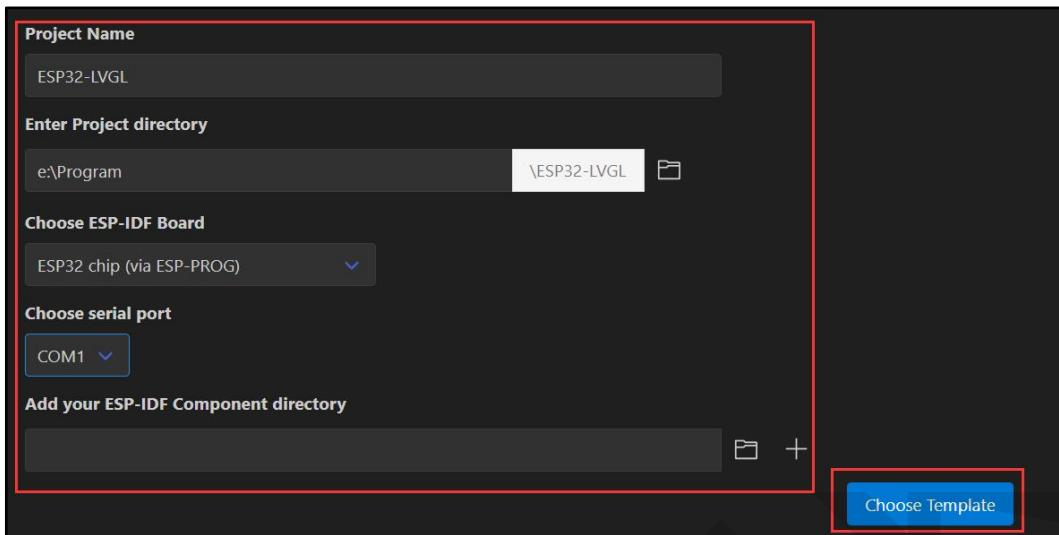

Figure 1.4 Project Configuration Example
D. After the project engineering configuration is completed, click the "Choose Template" button shown in Figure 1.4. In the pop-up interface, you can see many project engineering templates, which can be selected according to the actual project requirements. Choose the official basic template here. The specific operation is as follows: first, select "ESP-IDF" from the template category drop-down menu, then select "**sample\_project**" in get started, If there is no sample\_dject, select '**hello\_wworld**', and finally click the "**Create project using template sample\_dject**" option, as shown in the following figure: